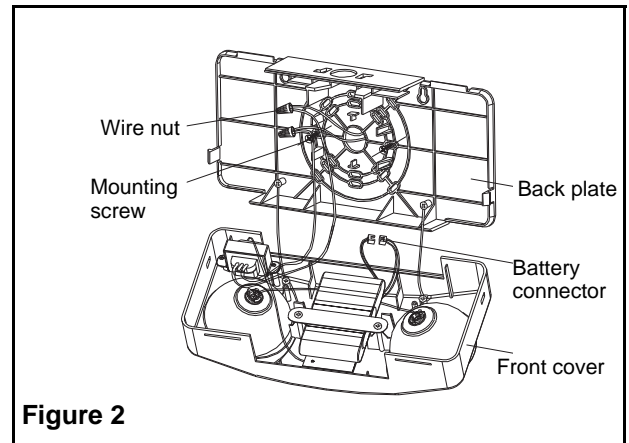

Figure 2
5. Connect battery connector (see figure 2 or 4).